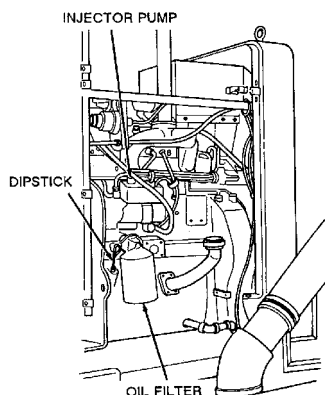

Figure 4-12. Oil Filter
- a. Unscrew the filter element (see Figure 4-12 and 5, Appendix F, Figure 61) from the filter head (2).
- b. Check that the threaded adapter is secure in the filter head (2) and discard the old filter element (5). Clean the filter head.
- c. Lightly oil the top seal of the new filter element (5) using clean engine lubricating oil.
- d. Screw the new filter element (5) on to the filter head (2) until the filter element seal just touches the head and then tighten by hand. If the filter element is over tightened, removing it may be difficult.